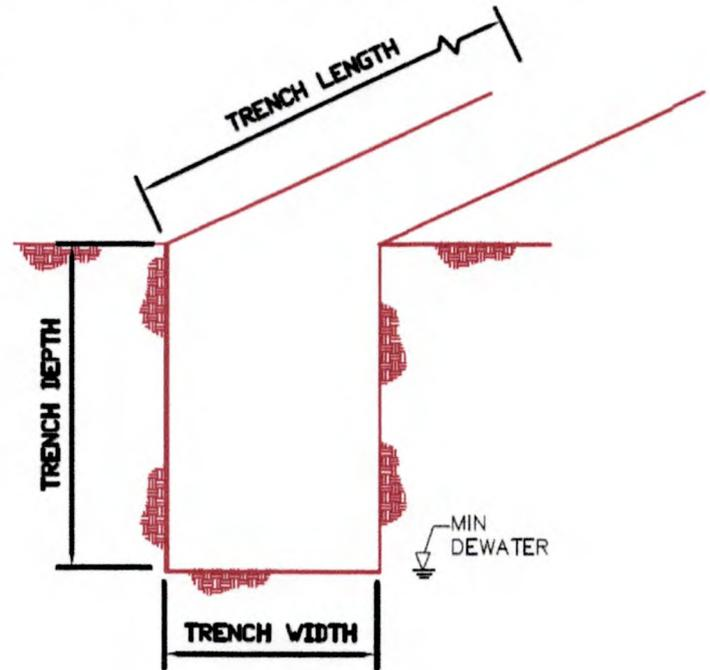

Figure 9 - Trench Parameters
Step 1 - Determine trench shoring requirements (Figure 9)